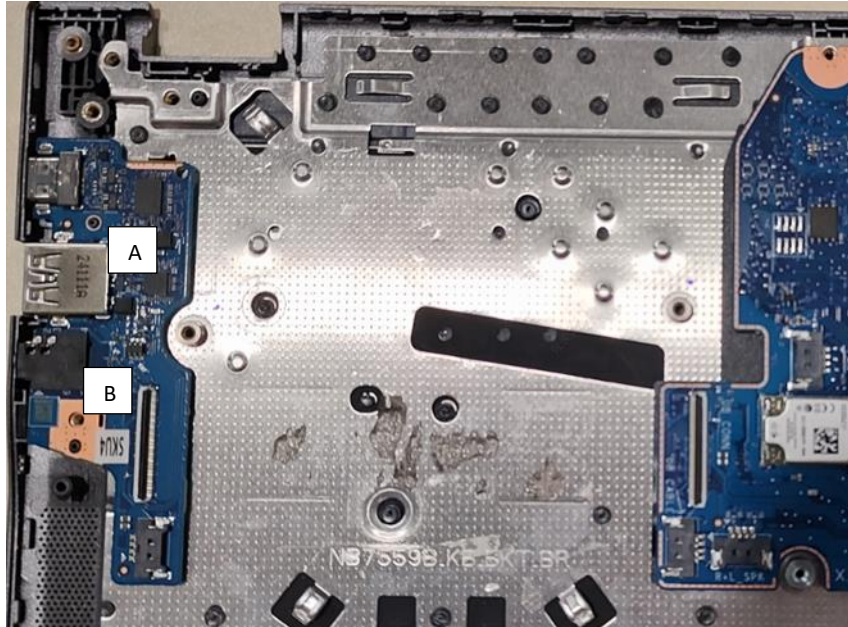

Figure 3-71. Replacing the USB Board
1. Align and slide the I/O ports on the USB board (A) into their slots on the top assembly (Figure 3-71).
2. Place the USB board onto its compartment until it is fully seated and secured to the guide pins (B) (Figure 3-71).